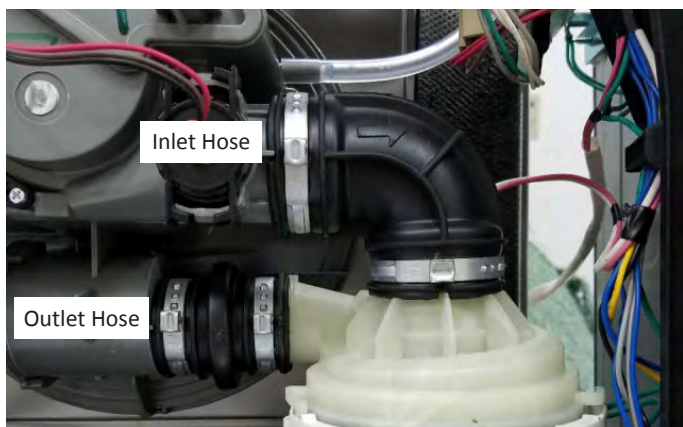

Figure 4
- Remove the 2 clamps, sump outlet hose, and inlet hose from the sump. See Figure 4.